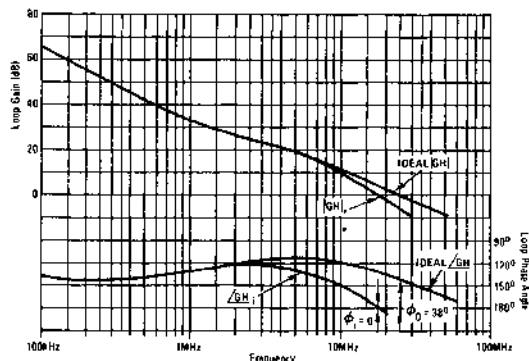

Figure 6
Therefore, the input capacitance creates a pole at $\omega_p = 1/R_{1f}C_i$ producing additional phase shift about this frequency. This will reduce the phase margin resulting in possible oscillation. For example, if $R_1 = R_f = 2K$ and $C_i = 10pF$, the pole frequency is found to be $f_p = 16MHz$. The loop gain plot $(GH)_i$ in Figure 6 reveals a perfect oscillatory condition at $18MHz$; i.e. $|GH| = 0dB$ and ϕ_i (phase margin) = 0° . If input capacitance were neglected, our prediction would have erroneously resulted in a phase margin (ϕ_o) of 38° .
- (1) Plot both gain and phase of the GH function on semi-log paper (see ideal GH curve Figure 6). The following points were tabulated: